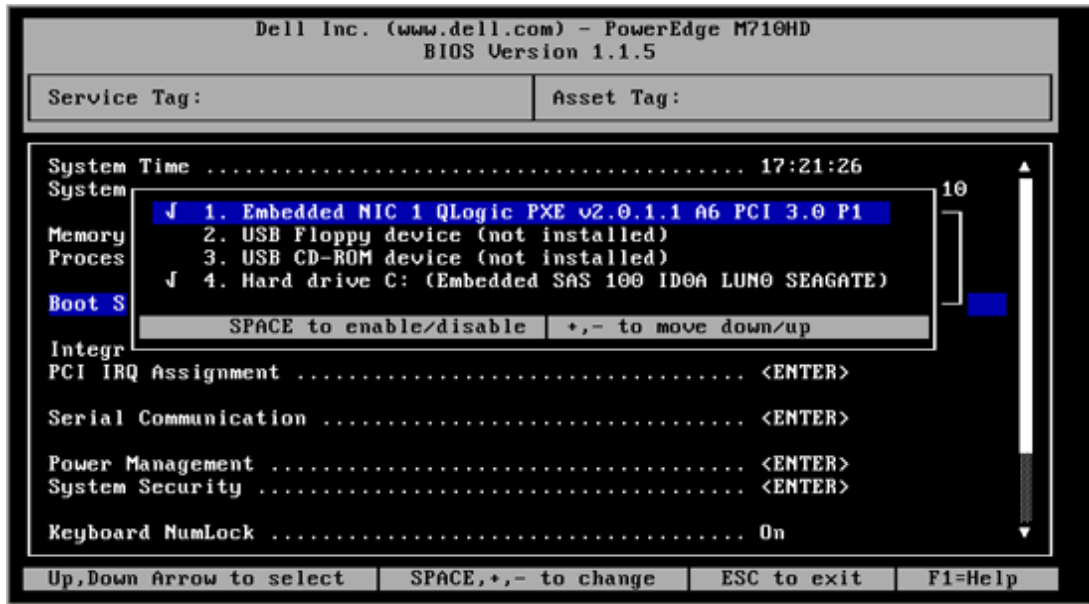

Figure 2-4. Embedded NIC 1 QLogic PXE
13. Select the **Embedded NIC 1 QLogic PXE...** entry, and then press the UP ARROW key to move this entry to the first position (Figure 2-4).